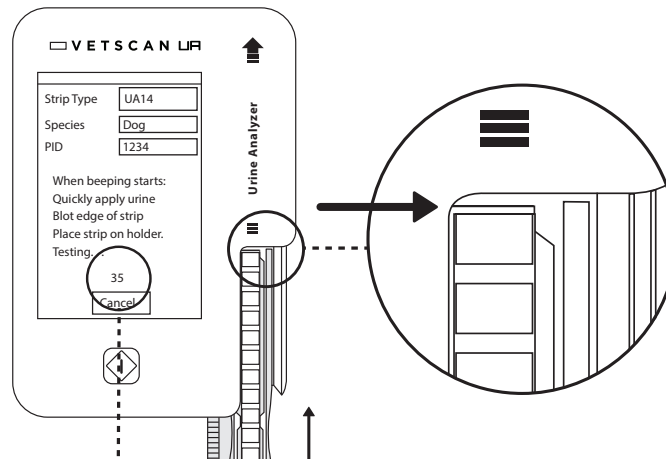

Fig. 24 Place strip onto Strip Tray
- Place strip on the Strip Tray and push the strip forward to the notch or “stop”. The end of the strip should stop at the indent in the top cover of the UA analyzer, as with normal sample runs. (Fig. 24) **This step should be completed before the countdown timer reaches 35.** The UA analyzer will time the reactions and scan when appropriate.